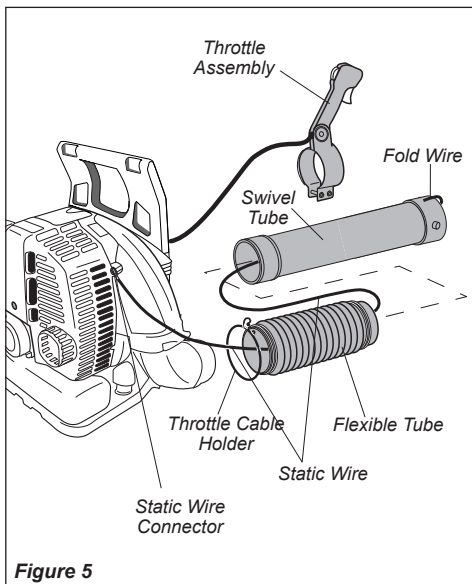

Figure 5
2. Remove static wire from package and fix eyelet to right hand engine cover screw. See Figure 5.
8. Fold the end of the static wire back over the connection of the swivel tube. See Figure 5.